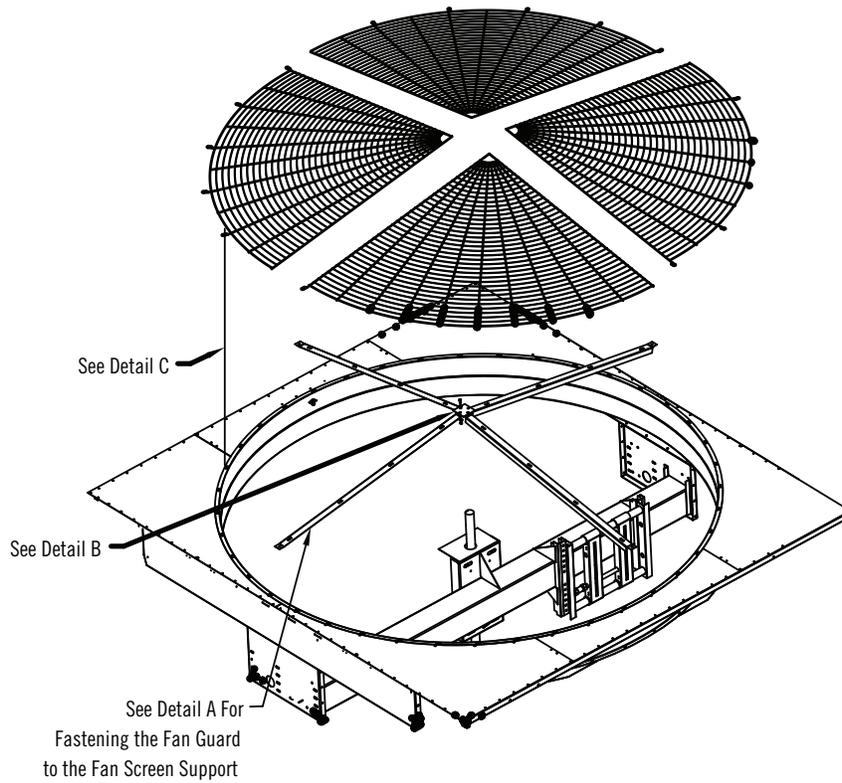

Figure 14. Four-Piece Fan Guard Assembly
1. Assemble fan guard supports as illustrated in **Figure 14, Detail A**.
2. Secure fan guard pieces to fan guard supports as shown in **Figure 14, Detail B**.
3. Mount fan guard assembly to unit as shown in **Figure 14, Detail C**.